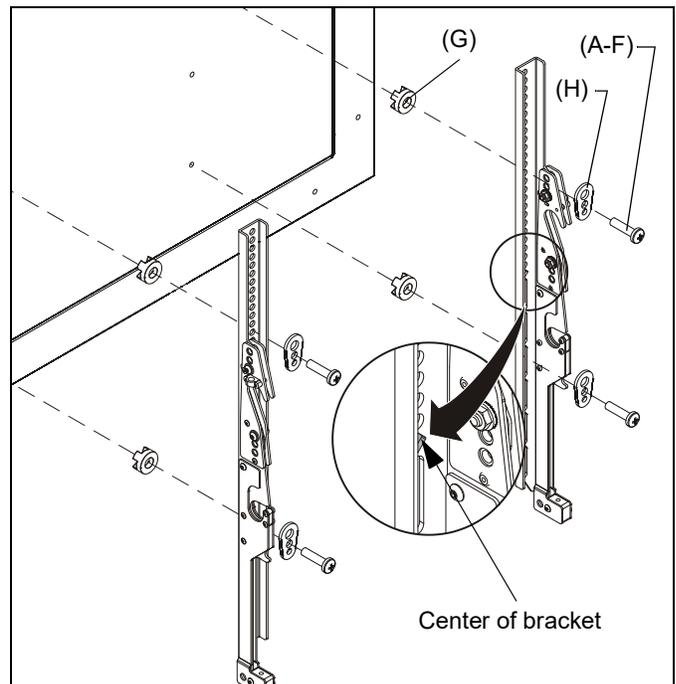

Figure 8
1. Align the center of the bracket (W and X) with center of screen. (See Figure 8)
2. Select correct screws, nesting spacers (if necessary) and universal washers from the hardware bag (A-H) and attach brackets to back of screen. (See Figure 8)